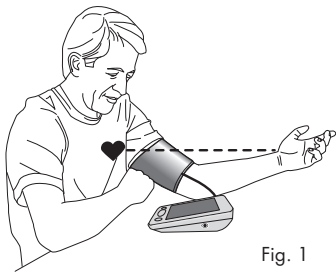

Fig. 1
3. Rest your elbow on a solid surface with your palm facing upward. Elevate your arm so that the cuff is at the same level as your heart, Fig 1. Relax your left hand.